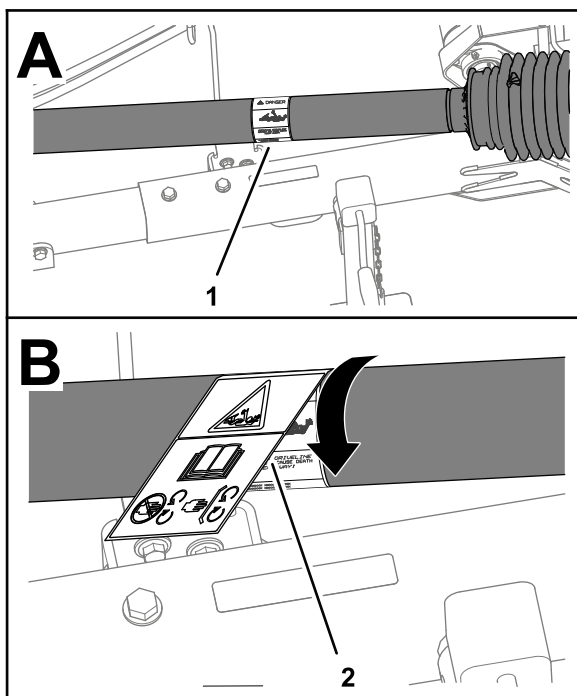

Figure 3
1. Rotate the shaft guard to access the existing entanglement decal (Figure 3).
4. Place the CE entanglement decal over the existing entanglement decal (Figure 3).